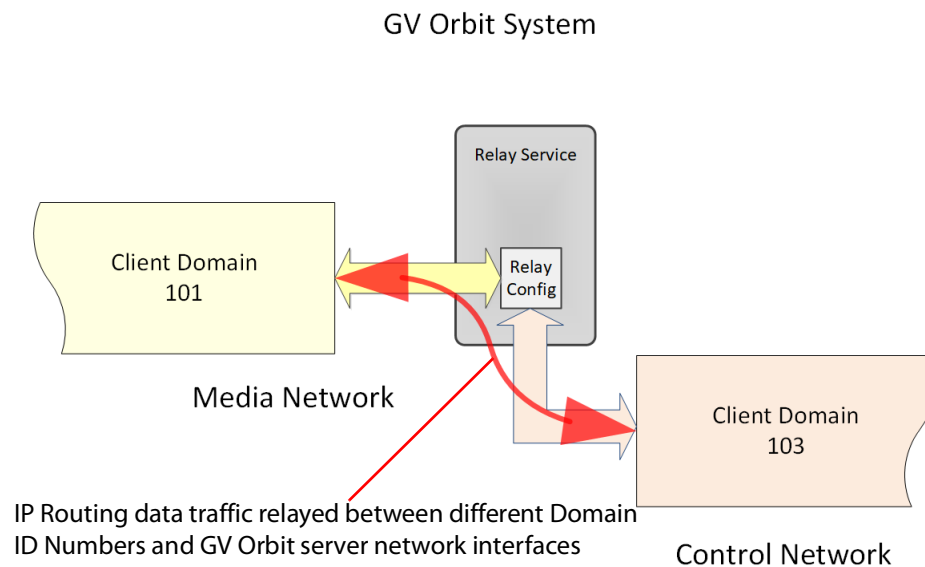

Figure 87: Relay IP Routing Traffic Use Case
- IP Routing data between different networks/Domain ID Numbers. Data is sent in *both* directions (to and from) between the networks/Domain ID Numbers involved. See Figure 87.